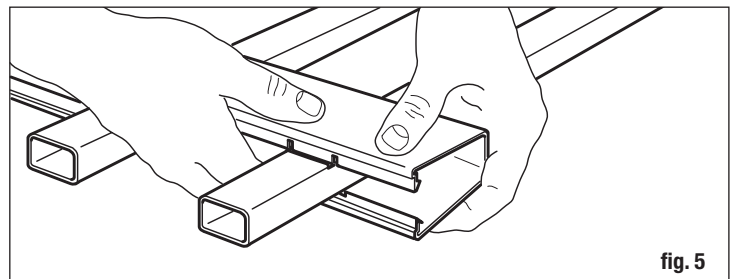

fig. 5
- Once all the pickets are in place, snap the rails into all the picket notches using your hands or gently tap with a rubber mallet (fig. 5).
- Starting at a corner, mix concrete in the first hole per the instructions on the bag. Mix thoroughly and install the post into the hole and tap the post to the proper depth. Measure to be sure you can install the finished panel to the post with approximately a 2" gap from the ground to the bottom of the panel. You may also need to leave a space from the highest point of the panel to the top of the post (fig. 5). The spacing allows the cap to be installed on top of the post without interference with the top rail.
- Une fois tous les piquets en place, encliquez les traverses sur toutes les encoches de piquets en utilisant vos mains ou en tapant doucement avec un maillet en caoutchouc (fig. 5).